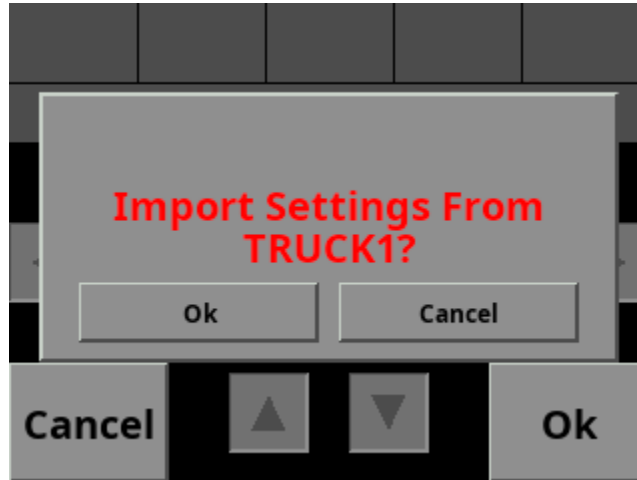

Figure 22: Import Settings File Confirmation
- STEP 6: Press the Ok button to select a file. A confirmation box similar to Figure 22 will appear.